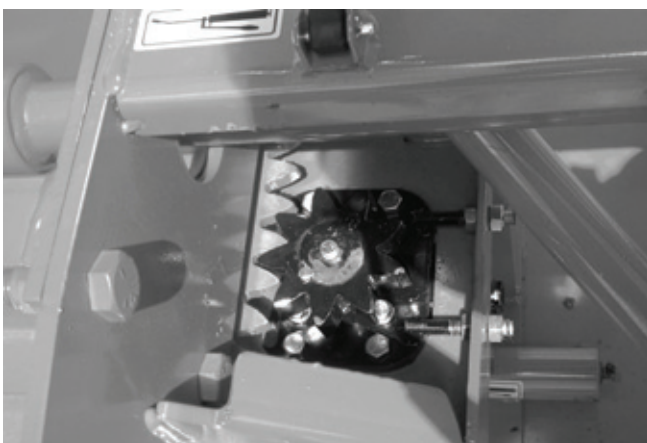

Figure 30
- 4) Using the take-up screws, adjust gear to mesh without bottoming (Fig. 30).